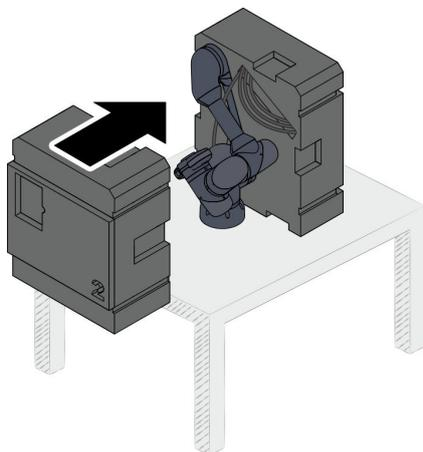

Fig. 97 Inserting packaging part 2
08. Place packaging part 2 on the robot Fig. 97.